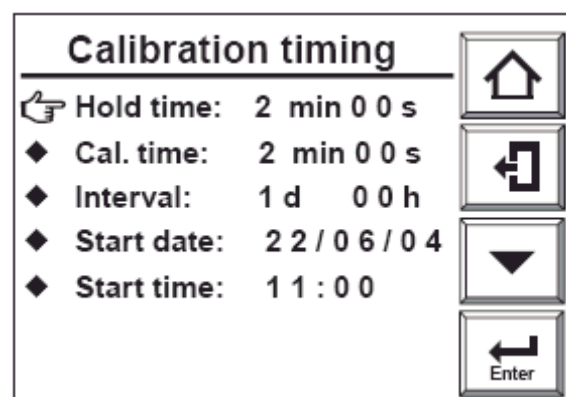

Figure 7.4 Calibration time setting
- 1) From the [Calibration Setup] display, select [Timing] and the display shown in Figure 7.4 appears. In this example, [Mode] is set to [Auto].